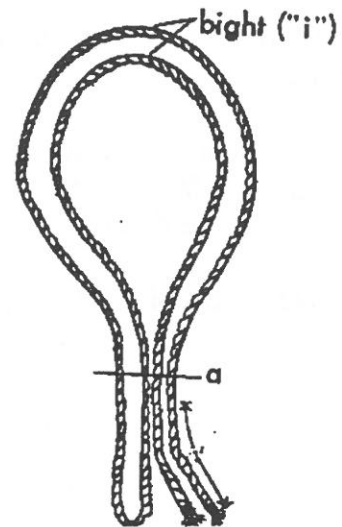
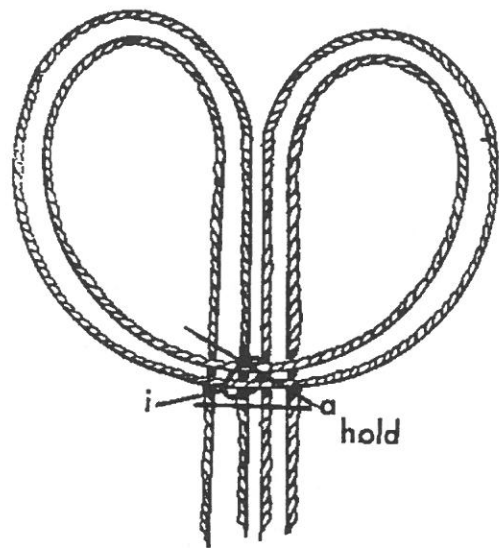

Figure 1
Figure 2
Grasp at BIGHT ("i") with left hand in Fig. 1 and bring down to right hand as shown in Fig. 2.
2. Hold "i" with RIGHT THUMB at "a" as in Fig. 2. Now there are two double overhand loops. (The right hand must continue holding the ropes in this position.)